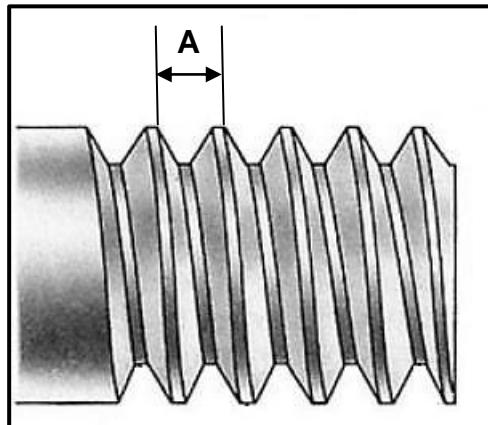

FIGURE 4.11
4.11 Identify **A** in FIGURE 4.11 below.